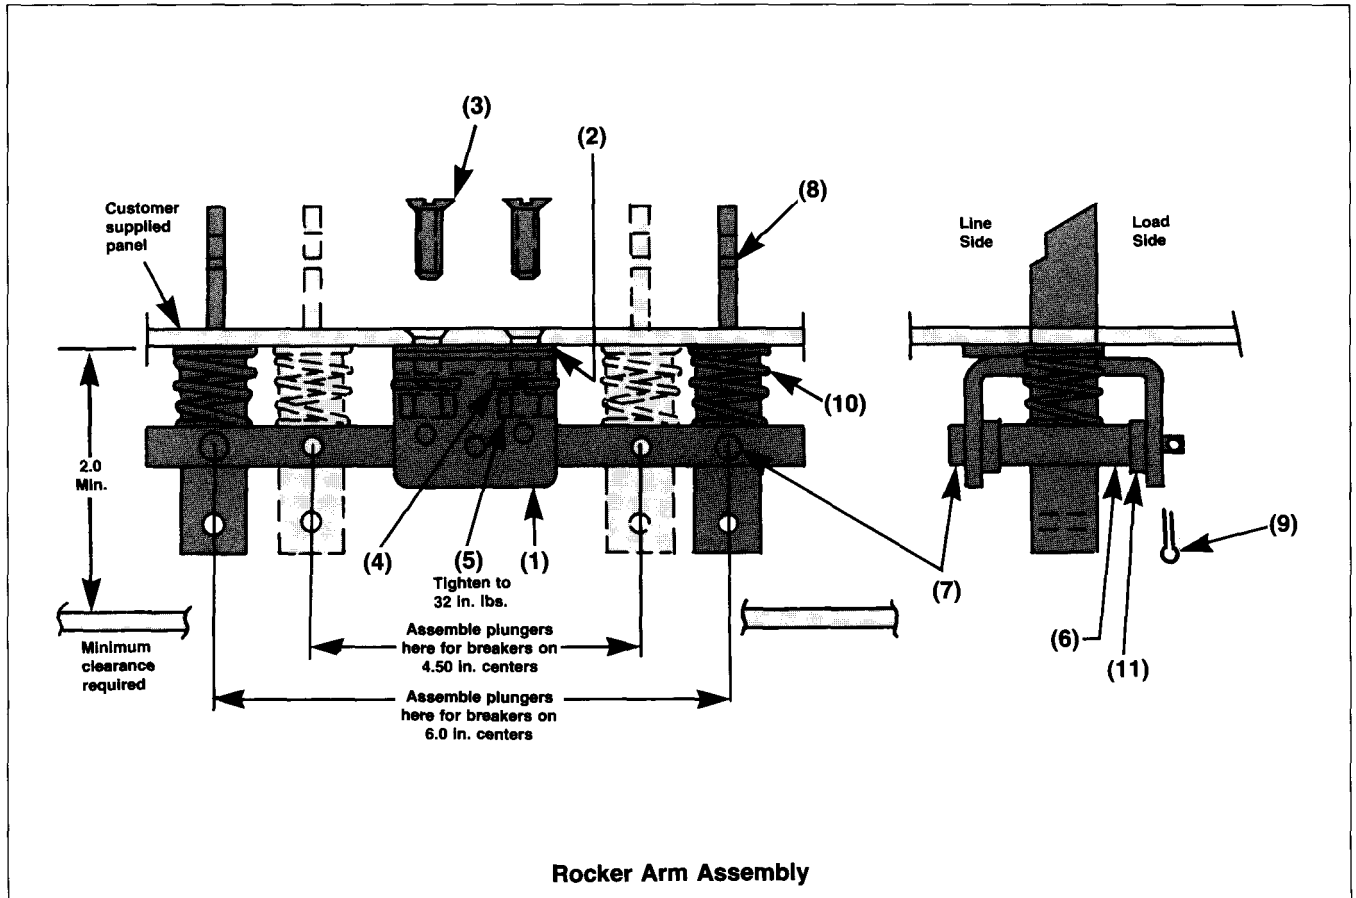

Figure 4
- B. If either circuit breaker cannot be turned ON, loosen the support screws (3) shown in Figure 4, and install one additional spacer (2). Retighten the screws to 32 in. lbs. Repeat step A. Additional spacers can be installed, if required.